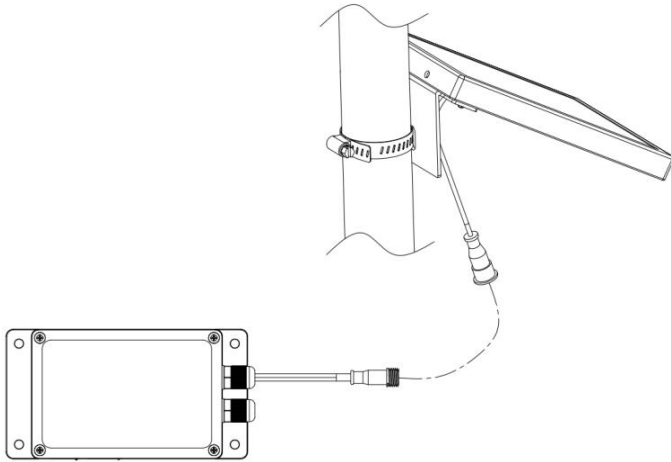

Figure 14
- b) There are 2 slots on the metal holder for steel loop. Attach the loop to the metal holder as shown in Figure 14.